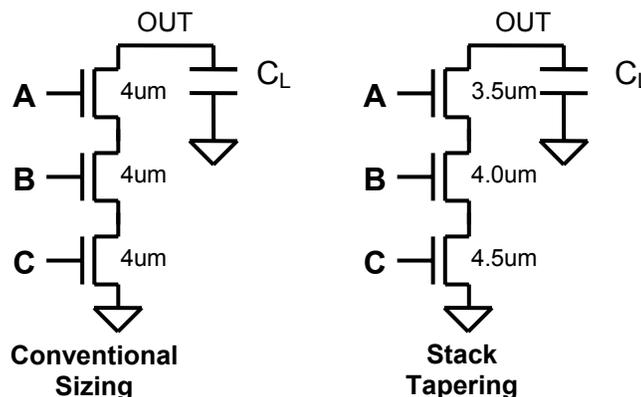

Figure 4.5
- Consider a stack of 3 NMOS devices in series connected to ground (as in a 3 input NAND). Calculate the delays (Elmore delay) for an initial sizing of 4, 4, 4 μm and a stack tapered sizing of 3.5, 4 and 4.5 μm (see Figure 4.5 below). Assume that $C_L=20\text{fF}$ includes all relevant capacitances at the output node and you may use the 0.6fF/ μm of device width approximation for C_{db}/C_{sb} . What percent improvement is seen when stack tapering is used?